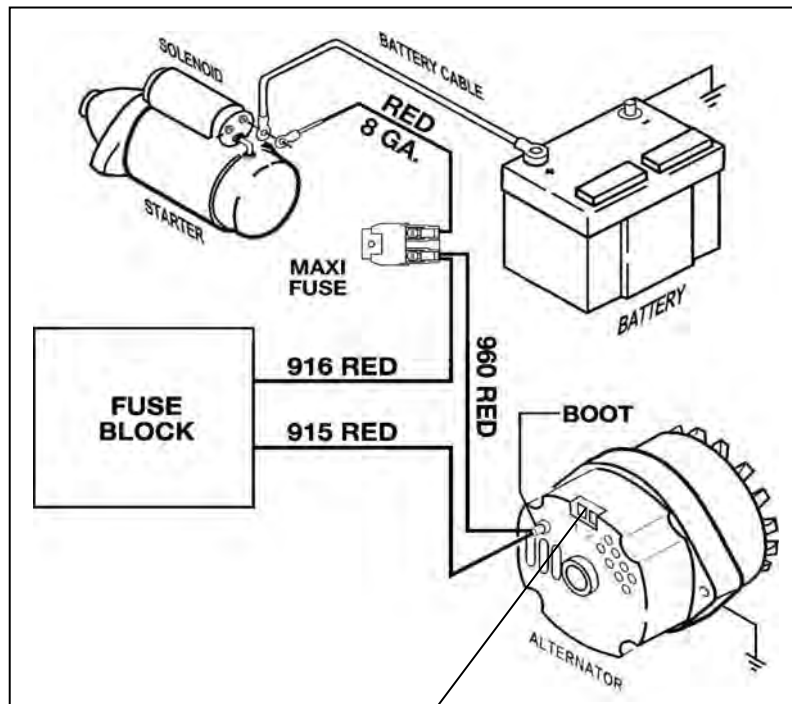

Figure 7-5 High Output Wire
**CAUTION:** IF USING AN ALTERNATOR WITH AN OUTPUT LARGER THAN 65 AMPS, YOU WILL ALSO NEED TO USE THE RED 10 GAUGE WIRE #960 AND THE RED 8 GAUGE WIRE INCLUDED IN THE BOX. THE WIRE END WITH THE RING TERMINAL AND RUBBER BOOT WILL CONNECT TO THE ALTERNATOR OUTPUT LUG WITH #915. ROUTE THE OTHER END TO THE MAXI FUSE TERMINAL WITH WIRE #916. CUT THE WIRE AND CRIMP ON A RING TERMINAL. NOW INSTALL A RING TERMINAL ON THE REMAINING RED 8 GAUGE WIRE AND ATTACH IT TO THE STARTER SIDE TERMINAL OF THE MAXI FUSE. CUT THE 8 GAUGE RED WIRE TO LENGTH, CRIMP ON A RING TERMINAL AND ATTACH IT TO THE MAIN SOLENOID LUG WITH THE POSITIVE BATTERY CABLE. SEE FIGURE 7-5